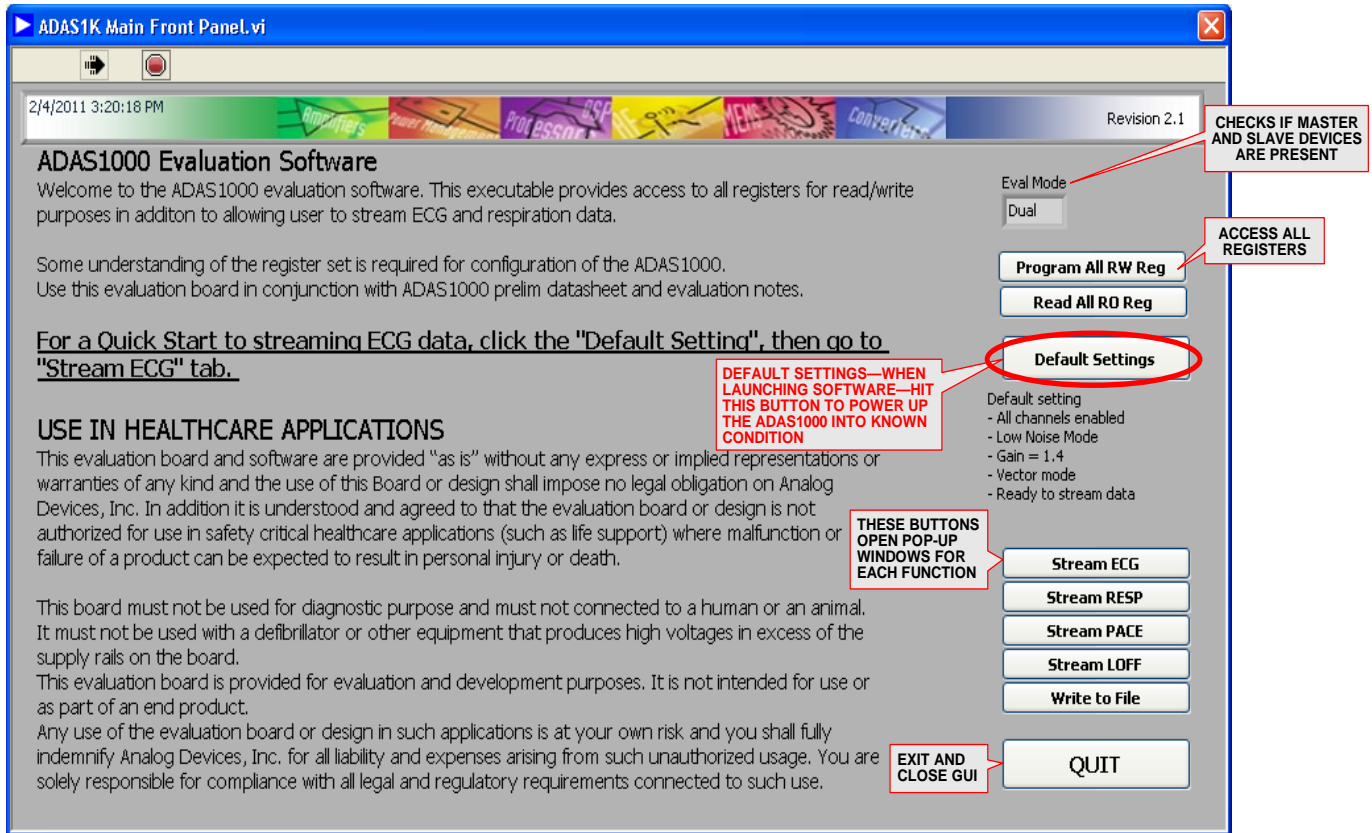

Figure 13. Main Evaluation Board Control Window
1. Launch the ADAS1000 software. The main panel shown in Figure 13 opens.
When the software is launched, the main window of the EVAL-ADAS1000 EVAL software opens, as shown in Figure 13.